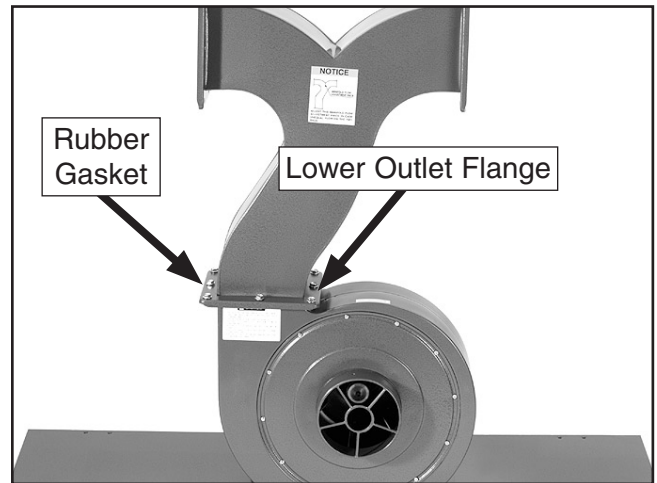

Figure 5. Mounting outlet to collector body.
3. Insert one of the rubber gasket between the collector and lower outlet flange, and secure using (8) $\frac{5}{16}$ "-18 x $\frac{1}{2}$ " flange bolts, as shown in **Figure 5**.